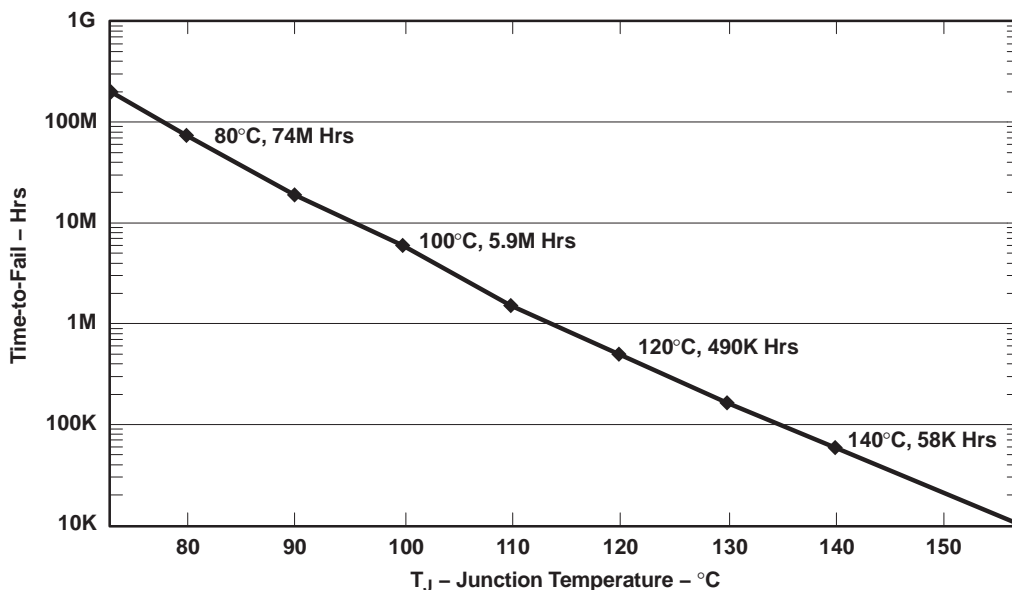

Figure 1. EME-G600 Estimated Wirebond Life
- (1) Stresses above these ratings may cause permanent damage. Exposure to absolute maximum conditions for extended periods may degrade device reliability. These are stress ratings only, and functional operation of the device at these or any other conditions beyond those specified is not implied.
- (2) The absolute maximum ratings under any condition are limited by the constraints of the silicon process. Stresses above these ratings may cause permanent damage. Exposure to absolute maximum conditions for extended periods may degrade device reliability. These are stress ratings only, and functional operation of the device at these or any other conditions beyond those specified is not implied.
- (3) Long-term high-temperature storage and/or extended use at maximum recommended operating conditions may result in a reduction of overall device life. See Figure 1 for additional information on thermal derating.